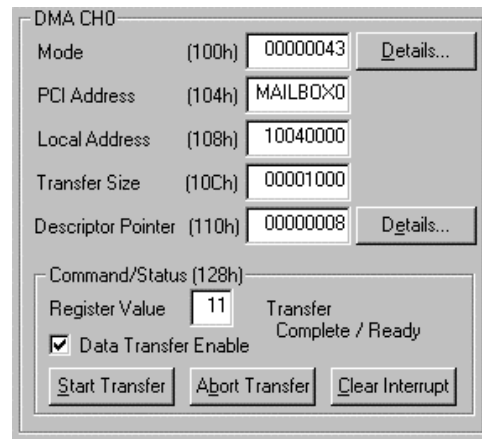

Figure 2-5 DMA Channel 0 registers
- Set up the DMA transfer as seen in Figure 2-5. The minimum requirement for set up of the mode register is to set the Ready Input Enable. It is also recommended, but not required to set the bus width to 32 bit. These combinations give the mode register a value of 43. The value in PCI Address, listed here as “MAILBOX 0” is any valid physical PCI address. The SDK driver will allocate a fixed size buffer (10000 bytes by default) and place a pointer to this buffer in mailbox 0. The Local Address given here is valid for all supported RDKs up to a size of 40000 bytes (hex). Transfer direction is set within the Descriptor Pointer, the value 8 indicates an IOP to PCI DMA transfer.